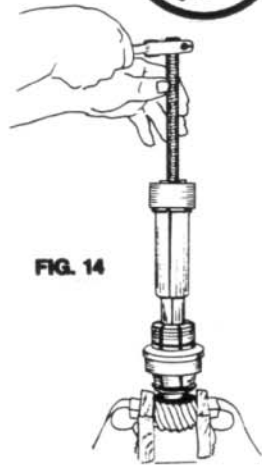

FIG. 14
9. Now, tighten nut end of JACK SCREW until bearing cone is removed. (Fig. 14)